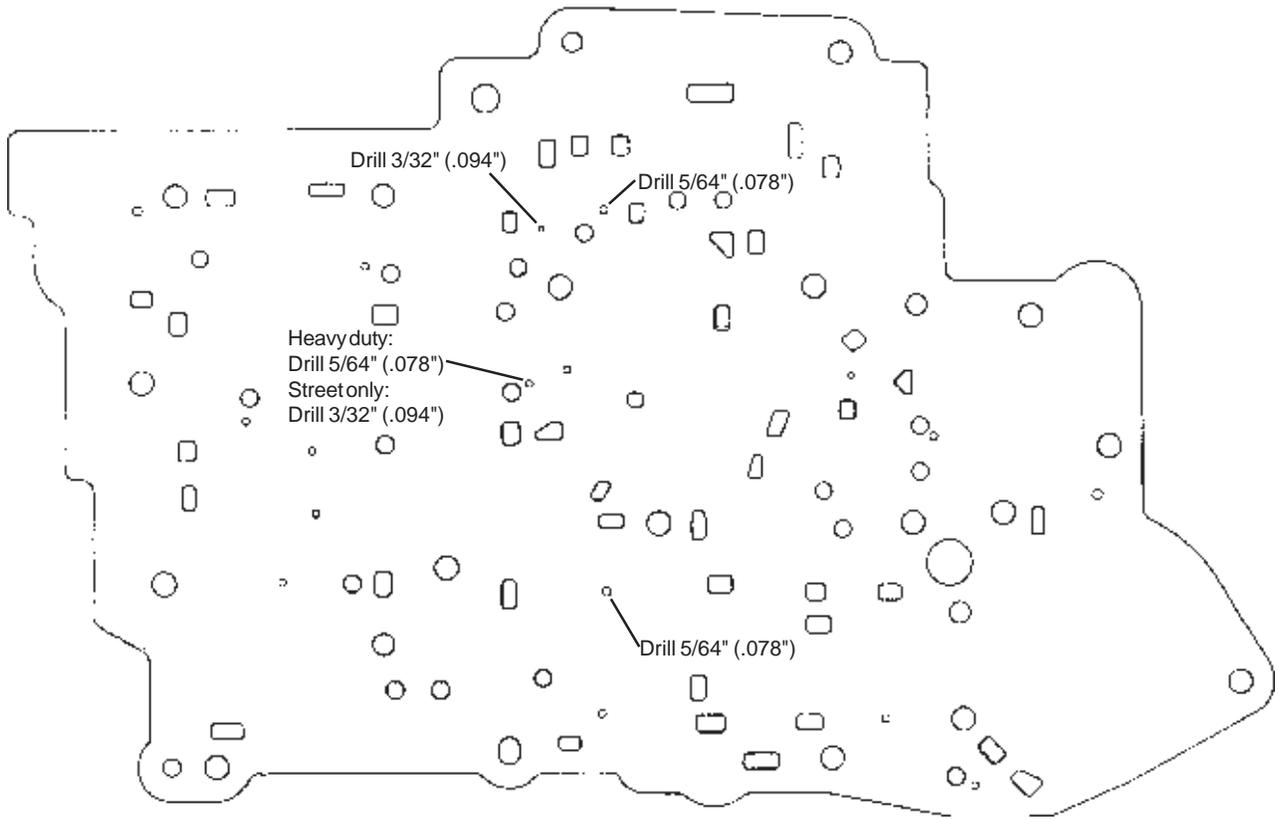

Fig. 5. Drill Separator Plate.
**STEP 7. Heavy Duty and Street; Separator Plate.** Using the supplied drills, enlarge the holes in your separator plate as indicated (see Fig. 5) for the performance level desired. Pay close attention to the diagram when locating the holes to be enlarged so as not to enlarge the wrong hole. Carefully deburr the holes after drilling.